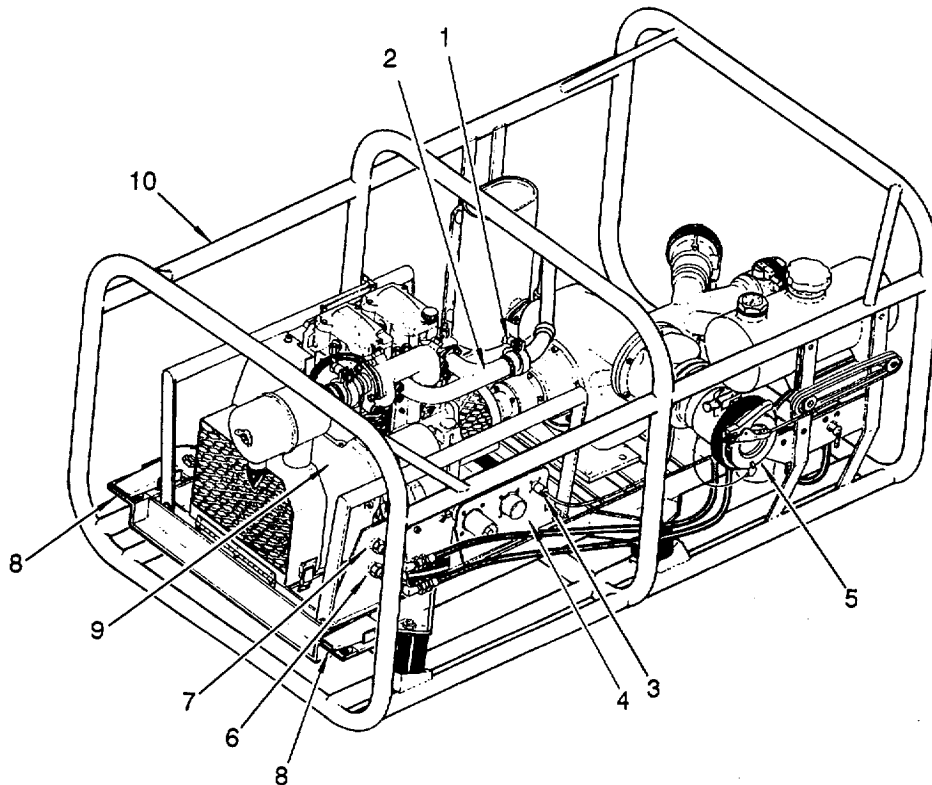
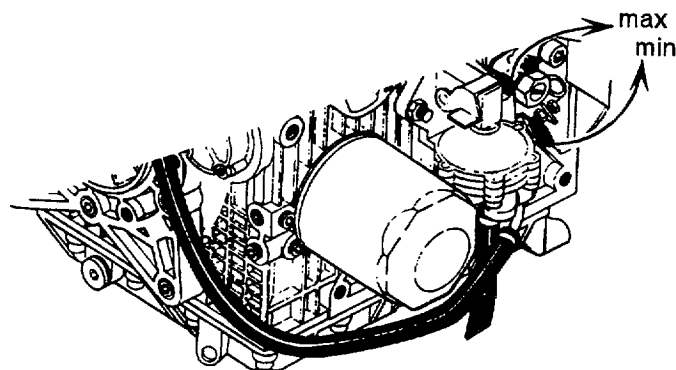

Figure 2-4. Engine Module Removal from Pump-Engine Module
Figure 2-5. Manual Throttle Control
- b. Remove engine module from pump-engine module. Refer to figure 2-4.
- (1) Unclamp exhaust pipe (1) from exhaust manifold (2).
- (2) Disconnect pumpage overtemperature cable (3) at engine module connection panel (4). Install dust caps on connectors. Wrap free end of cable around fuel transfer pump outlet (5).
- (3) Disconnect fuel supply line (6) and fuel return line (7) at engine module. Connect free ends of lines together.
- (4) Unlatch (8) engine module (9) from pump-engine frame (10) and slide engine module out of frame.
- d. Install engine module in pump-engine module. Refer to figure 2-4.
- (1) Slide engine module into pump-engine module, PTO end first. If flex coupling will not engage it may be necessary to rotate the flex portion slightly to align with the engine adapter.
- (2) Latch (8) engine module to pump-engine frame.
- (3) Clamp exhaust pipe (1) to exhaust manifold (2).
- (4) Connect pumpage overtemperature cable at engine module connection panel connector 1A1J3 (4). Couple together adjacent dust caps.
- (5) Connect fuel supply line (6) and fuel return line (7) at engine module.
- (6) Check that throttle control is at max position (fully right). Refer to figure 2-5.